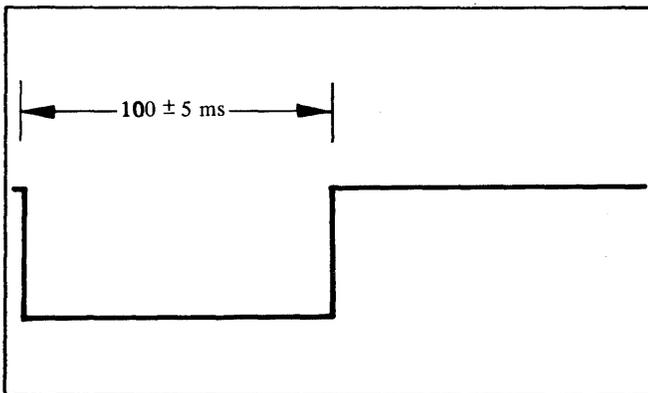

Figure 4-23. Long Servo Gate - Width
14. Adjust R66 on the SCM-1 board to give a pulse width of 100 ± 5 ms, as shown in figure 4-23.